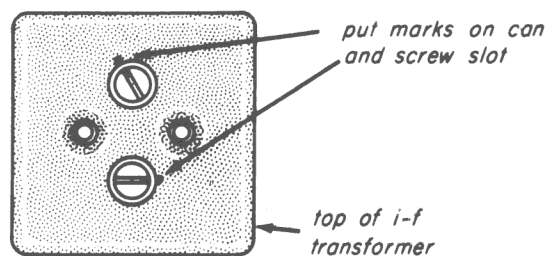

Fig. 39-6
Step 1. The i-f transformers are temporarily going to be thrown out of alignment. If you mark the positions of the trimmers first, you will be able to restore them to their correct positions without having to go through the complete i-f alignment procedure. With a sharp pointed crayon, make a mark on the can opposite the slot of all the trimmer adjustment screws as shown in Fig. 39-6. Also make a mark inside the slot itself, as shown in the figure, so that you will be able to return the adjustment screw to the correct point by lining up the two marks.